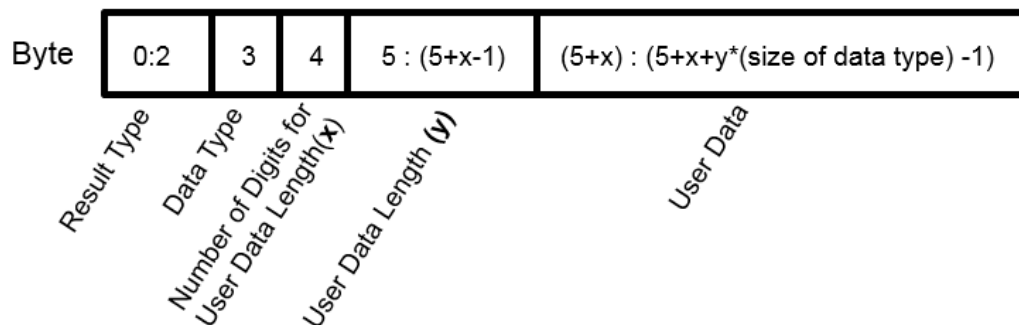

Figure 9-5: User data content format
- Content ('user data content'), see also Figure 9-5. As many bytes as 'LLLLL' specified.